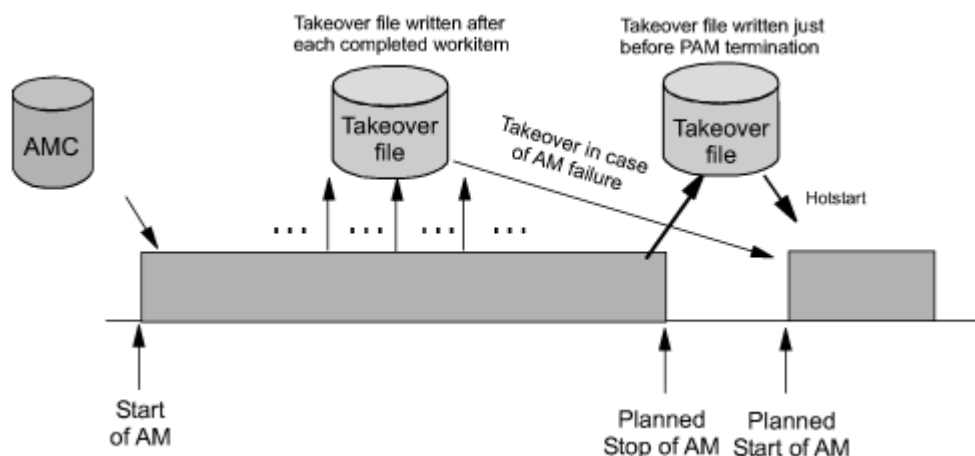

Figure 3. Using Only the Takeover File for Status Backup
Figure 3 on page 24 illustrates the timeline from the start of the automation manager (AM) through to its termination for the following cases: